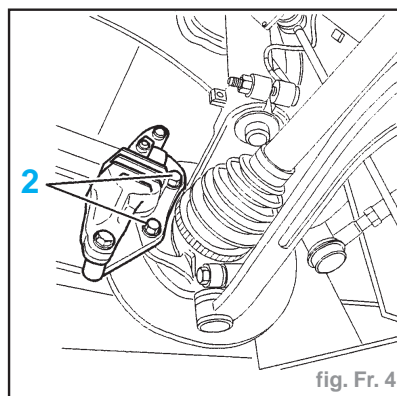

fig. Fr. 4
- les vis (2) du support d'étrier (fig. Fr. 4)